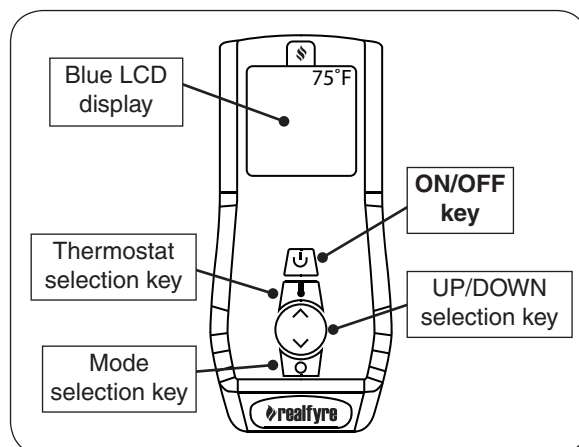

Fig. 39-4 Remote transmitter detail
3. Locate the remote transmitter and press the ON/OFF button (see Fig. 39-4). The ignition sequence will begin.